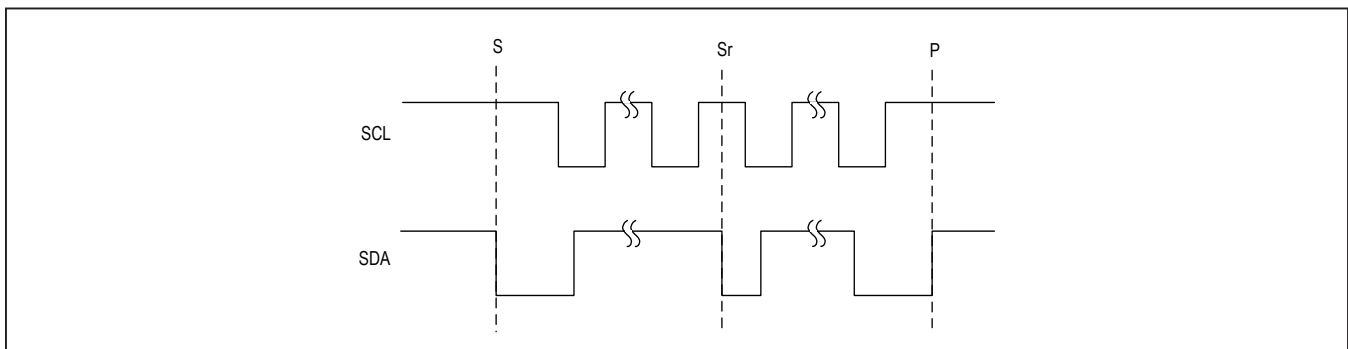

Figure 8. I2C START, STOP and REPEATED START Conditions
When writing to the MAX20303 using I2C, the master sends a START condition (S) followed by the MAX20303 I2C address. After the address, the master sends the register address of the register that is to be programmed. The master then ends communication by issuing a STOP condition (P) to relinquish control of the bus, or a REPEATED START condition (Sr) to communicate to another I2C slave. See Figure 8.